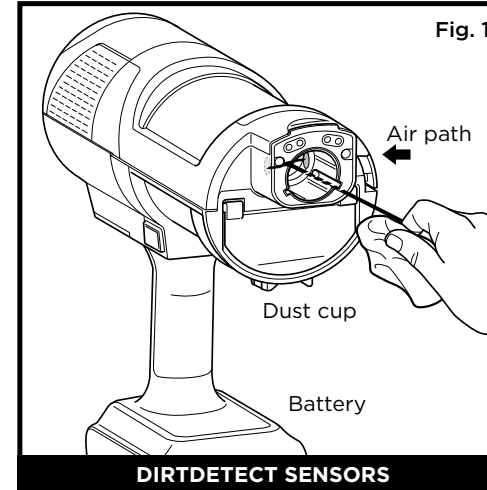

Fig. 1
2. Locate the DirtDetect Sensor in the nozzle of the hand vac (Fig. 1), the LightDetect Sensor on the top of the nozzle (Fig. 2), and the EdgeDetect sensor on the side of the nozzle (Fig. 3).